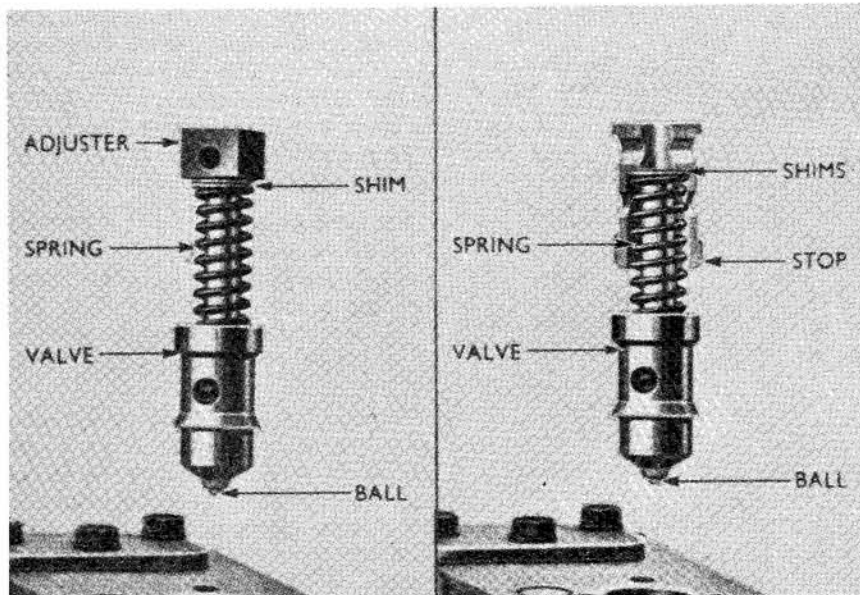

Fig. 180—Views showing earlier type (Left) and latest type (Right) pressure relief valve assemblies.
**236. RELIEF (UNLOADING) VALVE AND SEAT.** Three different types of pressure relief (unloading) valves may be encountered. Except for some late production units, model "FMD" systems were fitted with valve having tapered tip and adjuster with "O" ring seal as shown in Fig. 178. Early production model "FPM" and some late model "FMD" systems were fitted with a valve having a loose steel ball at the tip and a square adjuster as shown in left view in Fig. 180. To prevent the valve from raising high enough to allow the ball to become dislodged from the tip of valve, the adjuster was discontinued and a hollow valve stop was introduced in later production model "FPM" systems. If the square type adjuster is encountered, it should be renewed using the later type stop and small diameter adjusting shims. To renew the early "FMD" valve with tapered tip using the new steel ball tip valve, a new type valve housing is also required. Note: Only the late type valve housing will be available for service of both "FMD" and "FPM" systems.